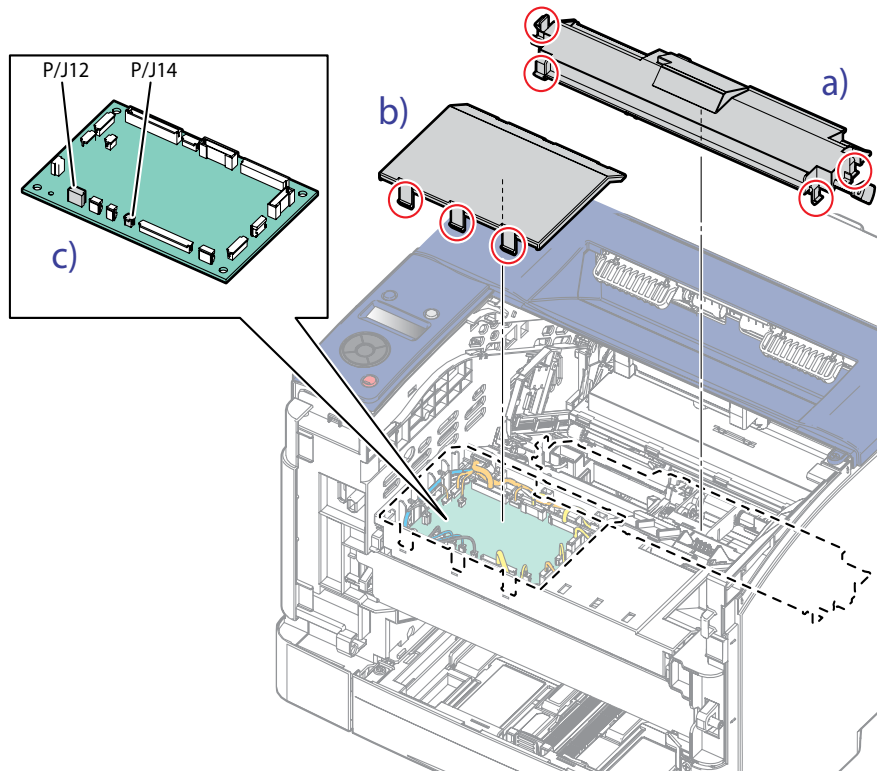

Figure 2
10. Prepare the MCU PWB. (Figure 2)